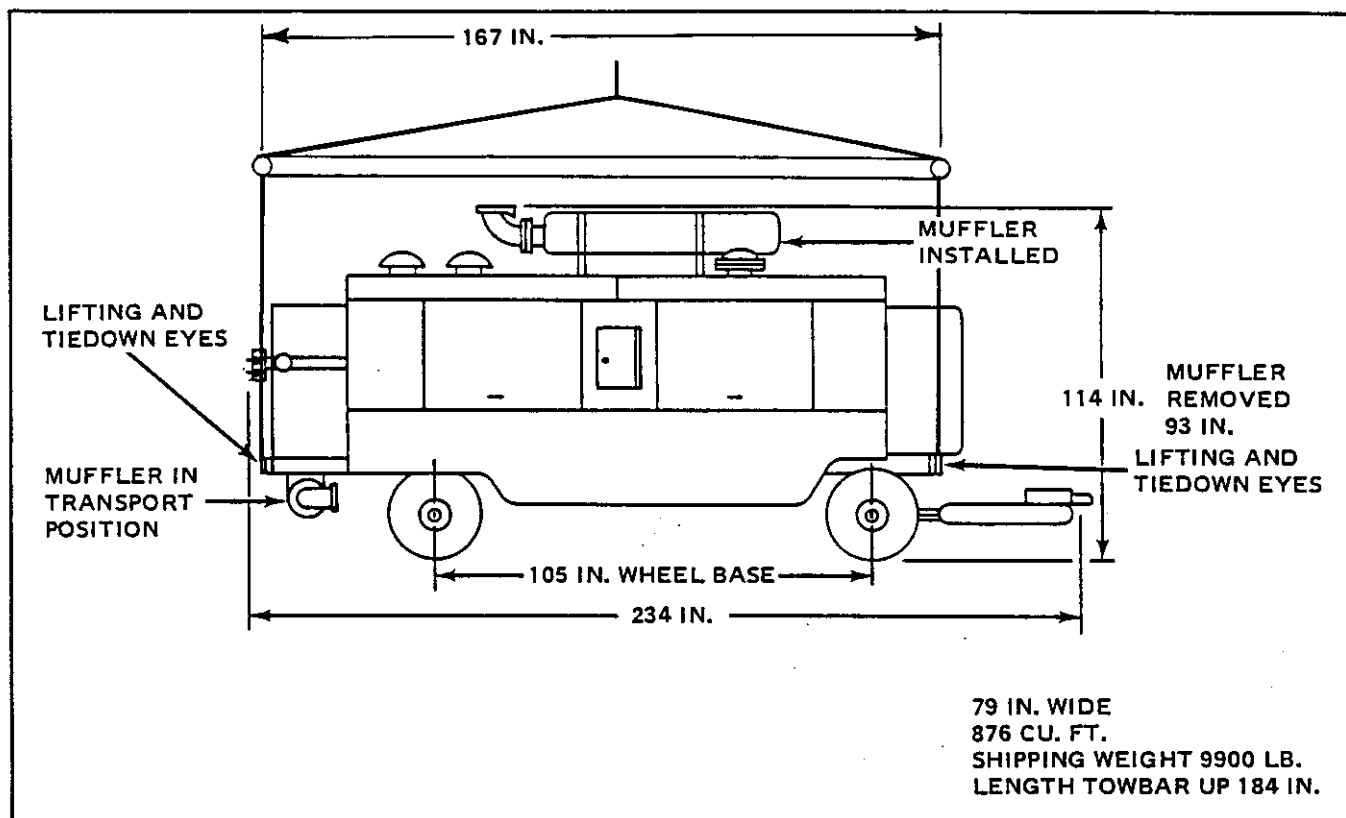

Figure 3-1. Lifting and tiedown diagram
3-1. PREPARATION FOR USE. The 750 RPDQ Rotary Air Compressor is shipped by the manufacturer as a completely assembled trailer mounted unit, except for exhaust muffler. Lifting, and tie down provisions are incorporated on the unit as shown on figure 3-1.
- 1. Attach suitable lifting device to exhaust muffler. Remove four (4) 3/8 - 16 NC x 1 in. lg hex head cap screws, 3/8 in. split lock washers, and 3/8 in. flat washers that secure muffler mounting bands to supports. Place mounting hardware in a suitable bag or box and mark MUFFLER MOUNTING KIT.
2. Remove eight (8) 3/4 - 10 NC hex nuts, 3/4 in. split lock washers, and 3/4 - 10 NC x 2-1/2 in. lg hex head cap screws that secure the muffler inlet flange to engine exhaust bellows. Hoist muffler, remove flange gasket, and lower muffler from roof. Place hardware in MUFFLER MOUNTING KIT. If reusable, place flange gasket in kit. If not reusable place a new gasket, part number 81919, in the kit for use at installation.
4. Using a hoist, position the exhaust muffler assembly under the rear of chassis frame and attach with banding straps or other suitable means. See figure 3-1.